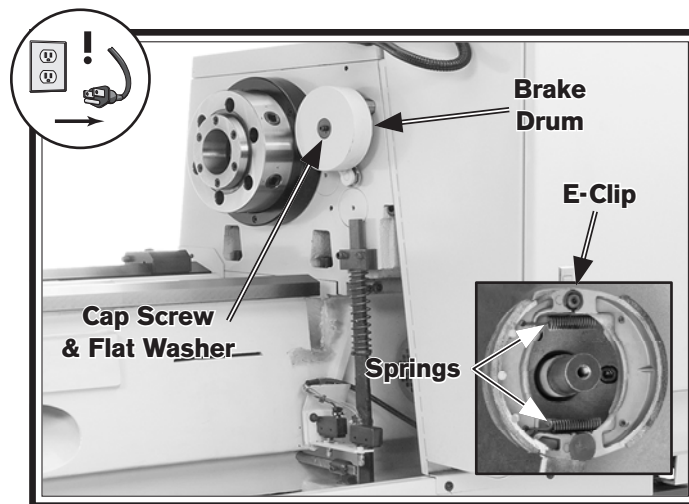

Figure 129. Brake drum.
8. While the brake pedal is being held down to lock the brake drum in place, remove the drum retaining cap screw and flat washer shown in **Figure 129**.
10. Remove the E-clip and springs shown in the inset of **Figure 129**, then remove the brake shoes.